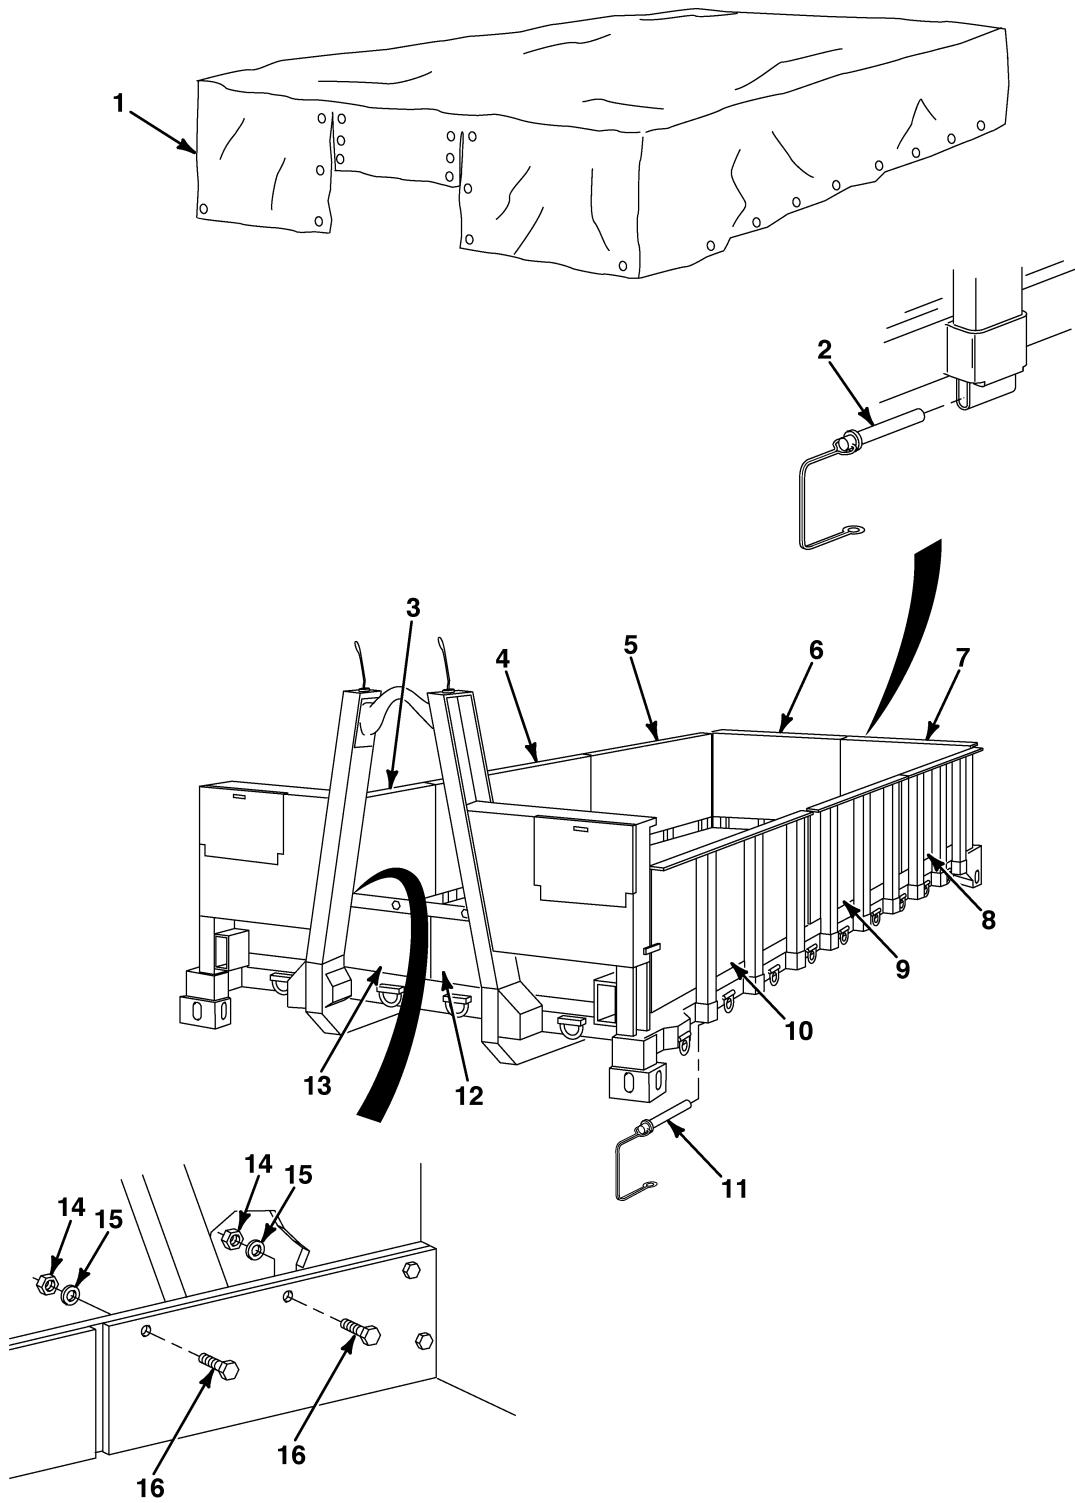

FIG. 1 M1077 SIDEBOARD KIT
**a. Section II. Repair Parts List.** A list of spares and repair parts authorized by this RPSTL for use in the performance of maintenance. The list also includes parts which must be removed for replacement of the authorized parts. Parts Lists are composed of functional groups in ascending alphanumeric sequence, with the parts in each group listed in ascending figure and item number sequence. Bulk materials are listed by item name in FIG BULK at the end of the section. Repair parts kits or sets are listed separately in their own functional group within Section II. Repair parts for repairable special tools are also listed in the section. Figures 1 through 8 list the repair parts list for PLS Flatrack M1077/M1077A1 and Figures 9 through 19 list the repair parts list for PLS M1 (IPF).
GROUP 33 SPECIAL PURPOSE KITS GROUP 3301 REUSABLE SHIPPING CONTAINERS FIG. 1 M1077 SIDEBOARD KIT